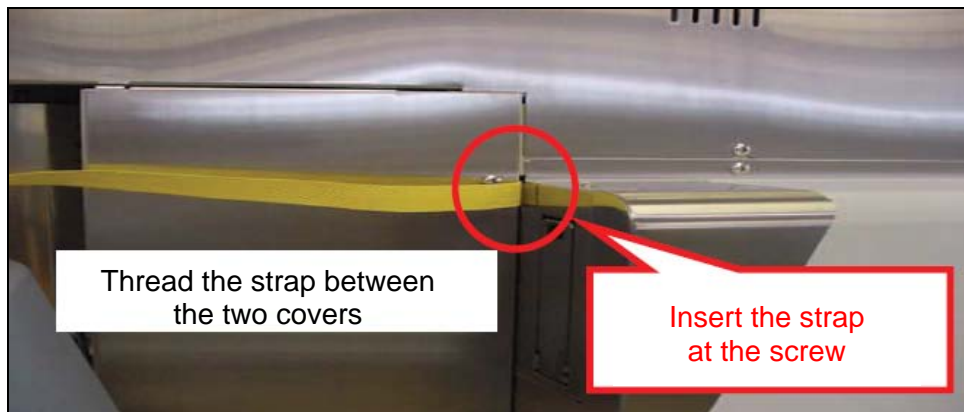

Figure 5. Strap for Applicator Cover –Outside View, Right Side
- Right-Left: secure a strap around the Applicator cover (1). See Figure 5.
- Up-Down: secure a spacer block under the Applicator Head (2).
- Front-Back: insert a horizontal spacer in the side openings of the Applicator Cover (3).